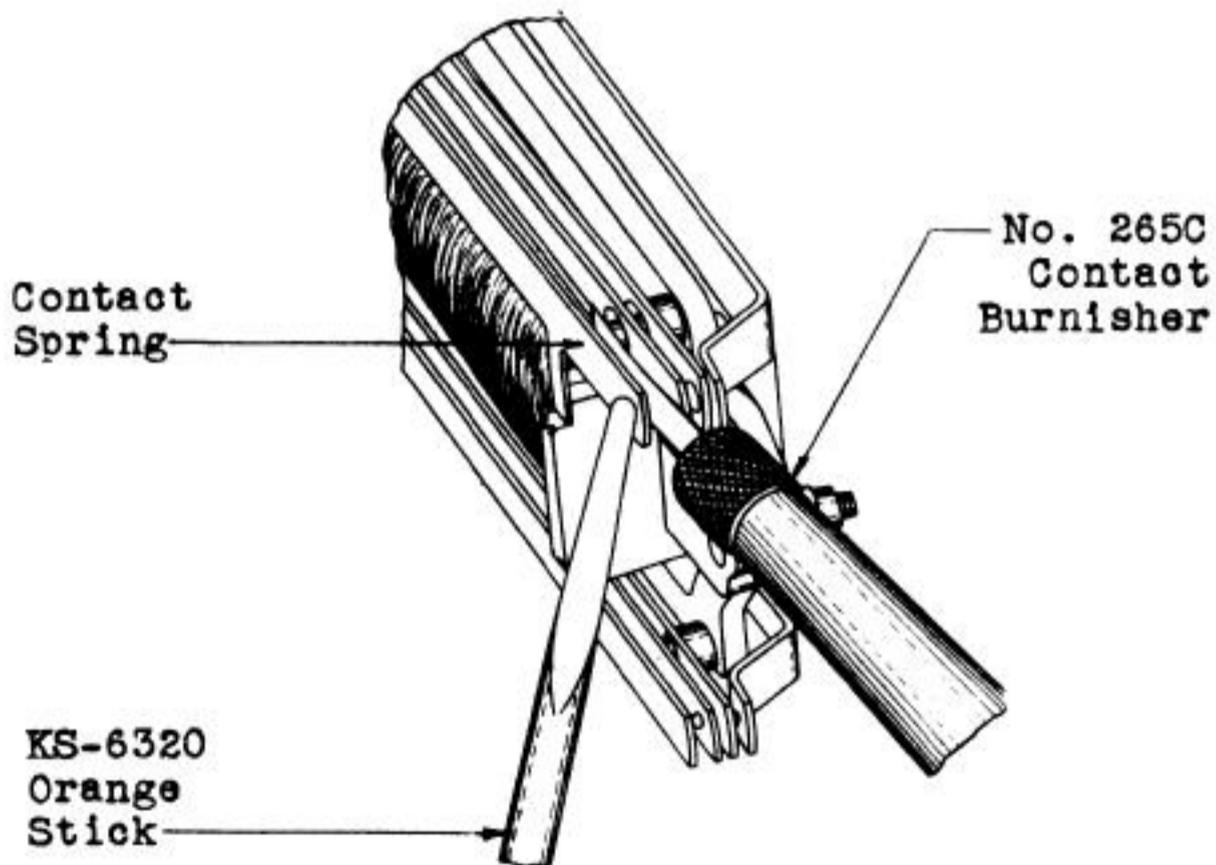

Fig. 12 - Method of Burnishing Contacts on A, E, F, H, R, T and AB Type Relays
5.06 In burnishing normally open contacts place the blade of the burnisher between the contacts, press them together with the KS-6320 orange stick as indicated in Fig. 12 or operate the relay manually giving a slight pressure against the blade of the burnisher at the same time moving the blade back and forth. Figs. 12 to 17 inclusive illustrate methods for